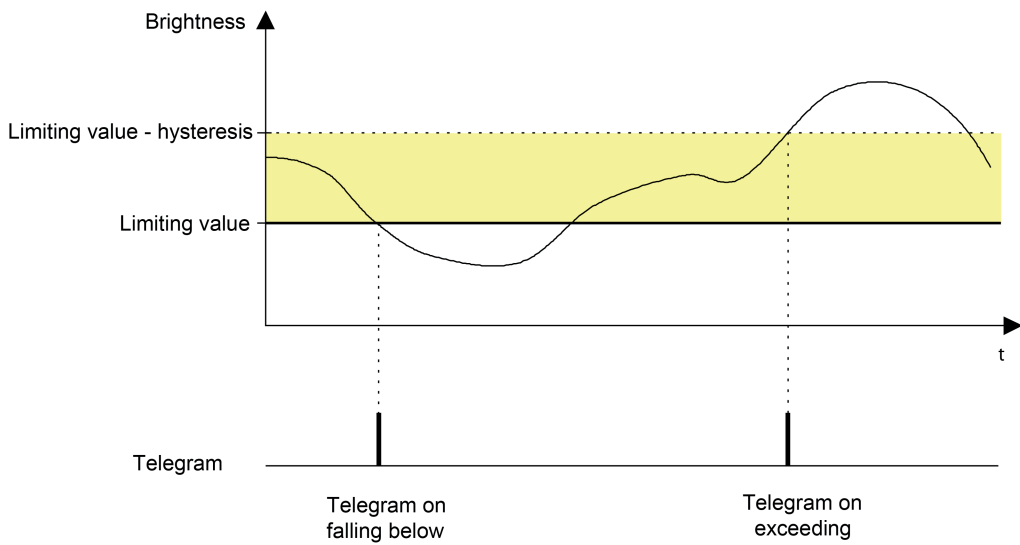

Figure 31: Example 2 of the limiting value definition
2. Brightness limiting value = Lower threshold (Figure 31)